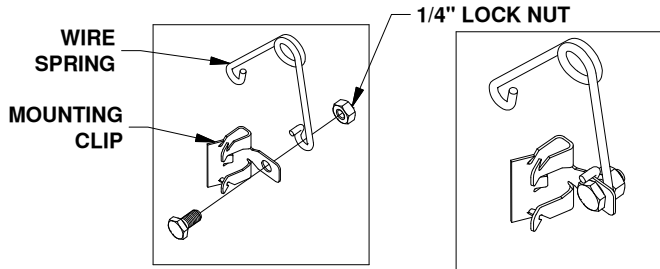
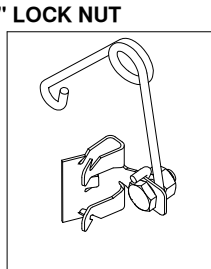

Figure B1:
Figure B2:
1. **Assemble kit.** Locate the 1/4" cap screw and nut, along with the wire tension spring and mounting clip. Pass the 1/4" cap screw through the mounting clip and the wire spring as shown in Figure B1. Thread the 1/4" lock nut onto the 1/4" cap screw. Tighten the lock nut just enough that the spring will stay in place but will still be able to rotate around the bolt if needed, see Figure B2.